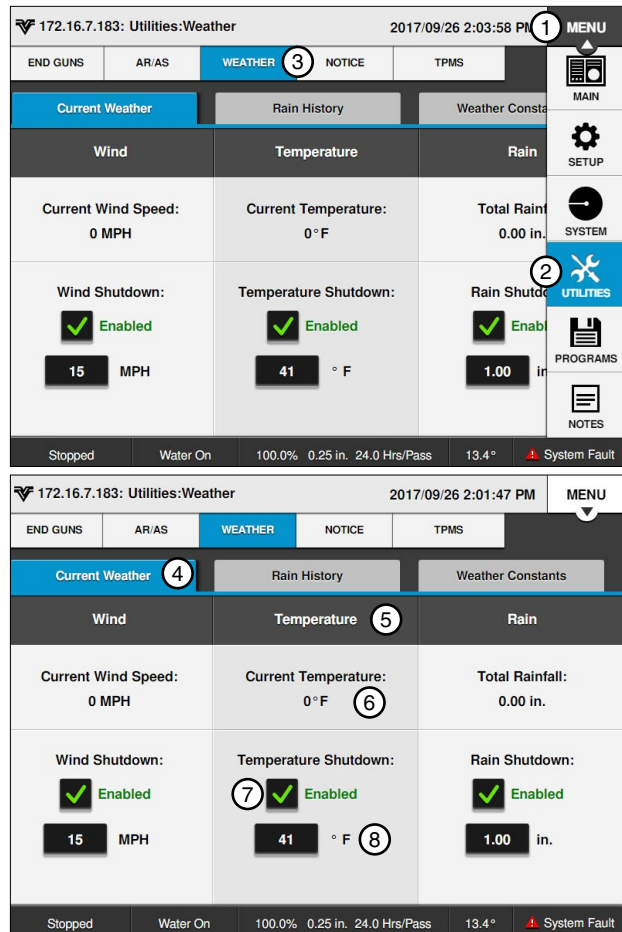

Figure 72-1
1. Push **Menu, Utilities, Weather, and Current Weather** to display the Current Weather screen. Refer to Figure 72-1.
Check the **Temperature Shutdown** checkbox to enable the temperature shutdown function, and uncheck the checkbox to disable temperature shutdown function. Refer to Figure 72-1.